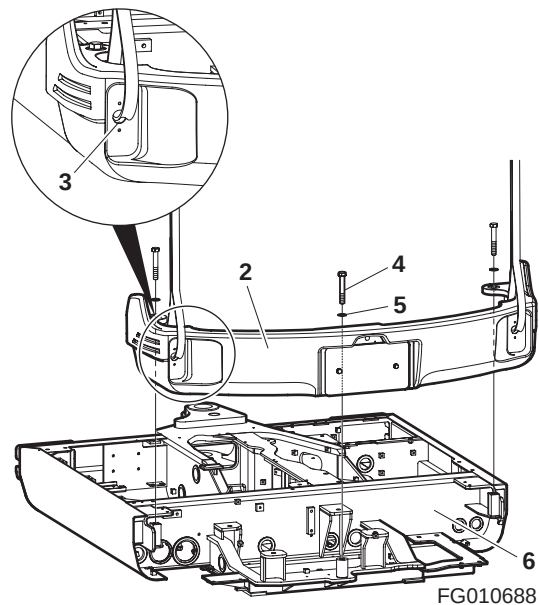

Figure 6
13. Install two lifting eyes in lifting holes (3, Figure 6).
14. Using a suitable lifting device capable of handling a heavy load, partially support counterweight (2, Figure 6) before loosening three bolts (4). Stop lifting with assist crane as soon as lifting slings are taut.
15. Remove three bolts (4, Figure 6) and washers (5) from counterweight (2).
16. When bolts (4, Figure 6) and washers (5) have been removed, lift counterweight (2) a very short distance above support frame (6) and stop. Check slings and make sure counterweight is being supported evenly.